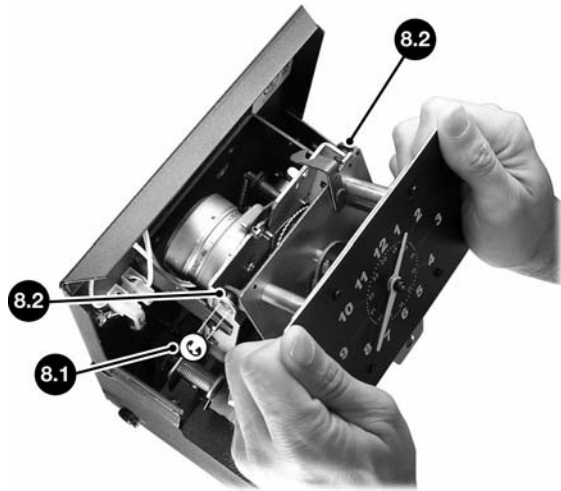

Figure 8
2. Remove **Type Section Retaining Ring and Washer**- Figure 8, 8.1.
4. Lift type section slightly and move it to the right to release **Hinge Pins** - Figure 8, 8.2 from their sockets. The Type Section will lift out.